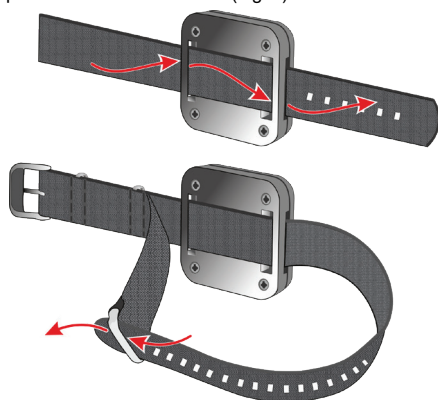

Fig. 2: Wrist strap installation
1. Wrist placement like a wristwatch (Fig. 2).